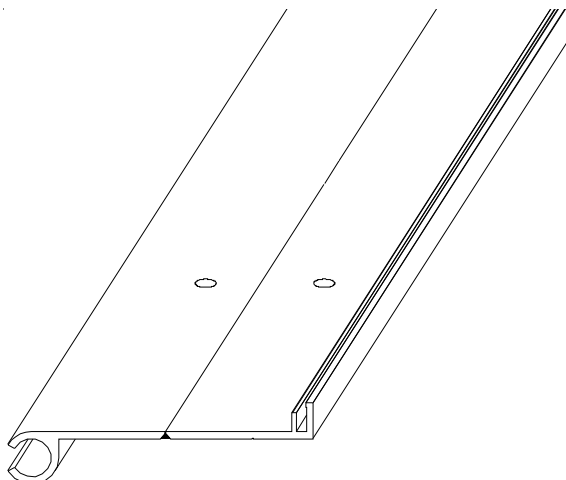

Figure 4
**STEP 4.** Drill the holes into the base members at the marked locations (see Figure 4).